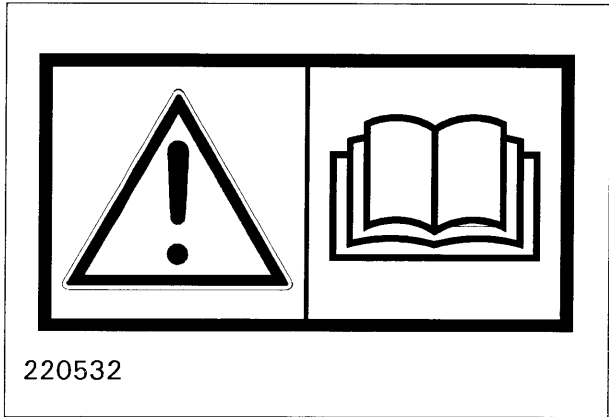

Fig. 16
**Warning sign 220532 (fig. 16).** Be careful! Read and understand the instructions in this manual before the machine is put into service and before attempting adjustment/maintenance.